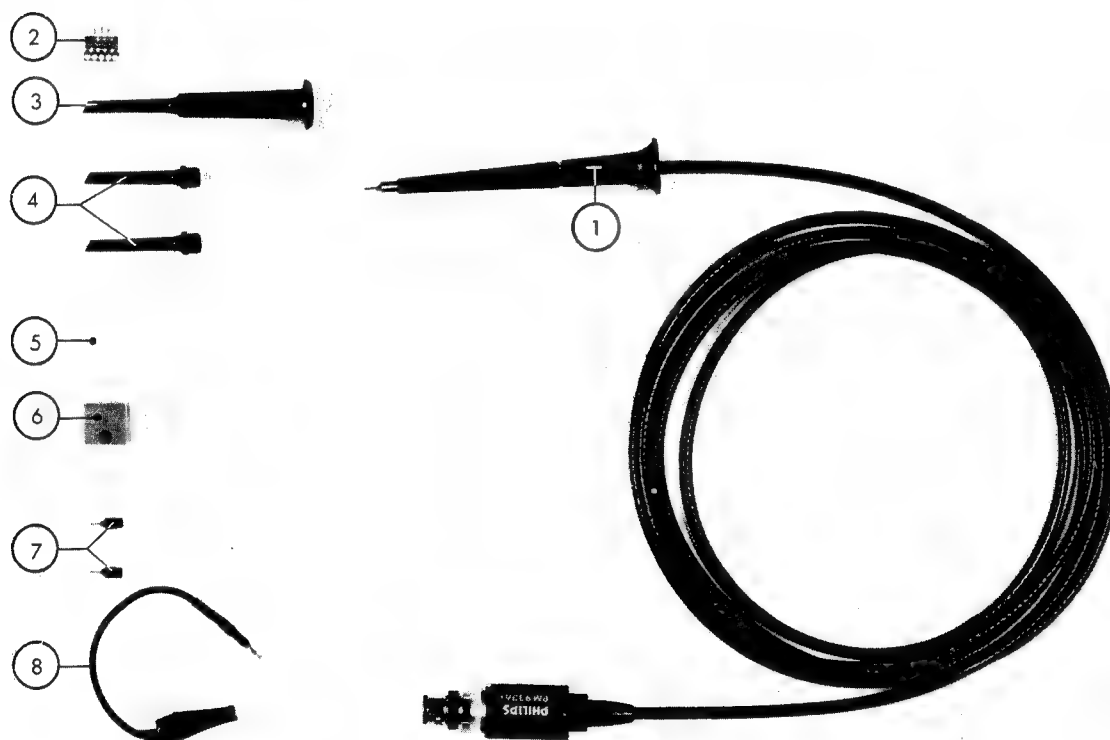

Fig. 20. Attenuator probe set PM 9336 (PM 9336L)
3.7.6. Attenuator probe sets PM 9336 and PM 9336L (Fig. 20)
1 probe assembly	Fig. 20, item 1
5 soldering terminals	Fig. 20, item 2
1 test hook	Fig. 20, item 3
2 spare test hook sleeves	Fig. 20, item 4
1 protective cap	Fig. 20, item 5
1 probe holder	Fig. 20, item 6
2 probe tips	Fig. 20, item 7
1 earthing cord	Fig. 20, item 8